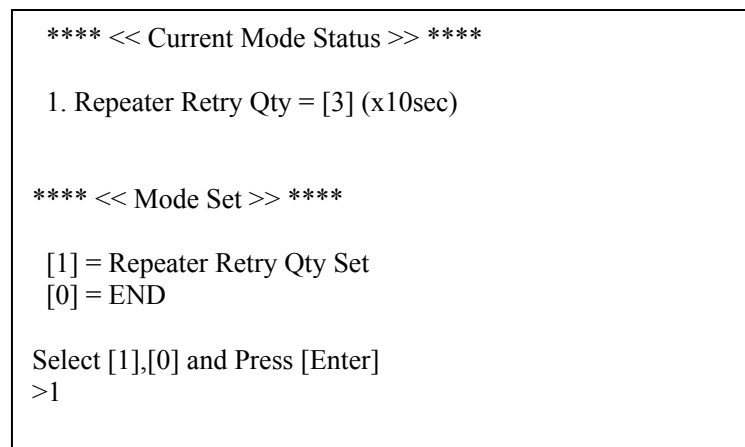

Fig.4-16 □ Setting for Transponder
- At this point when pushing **C** key within 5sec, the following screen (Fig.4-16) is displayed and Mode Set can be changed. Pushing **Enter** key terminates the setting.
□Setting of Transponder Re-try number of times (Select [□] in Fig.4-16)